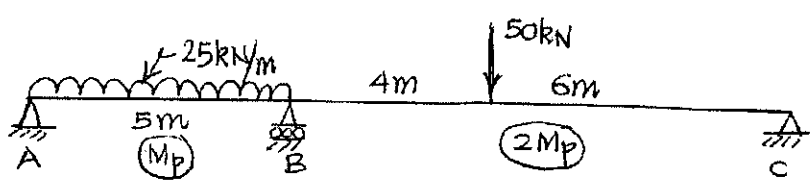

Fig Q4(c)
c. Determine the plastic moment capacity of the beam shown in Fig.Q4(c). (10 Marks)